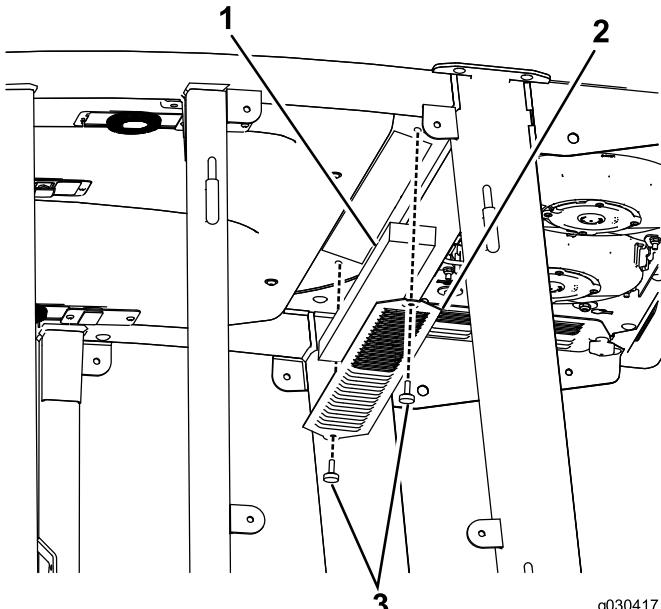
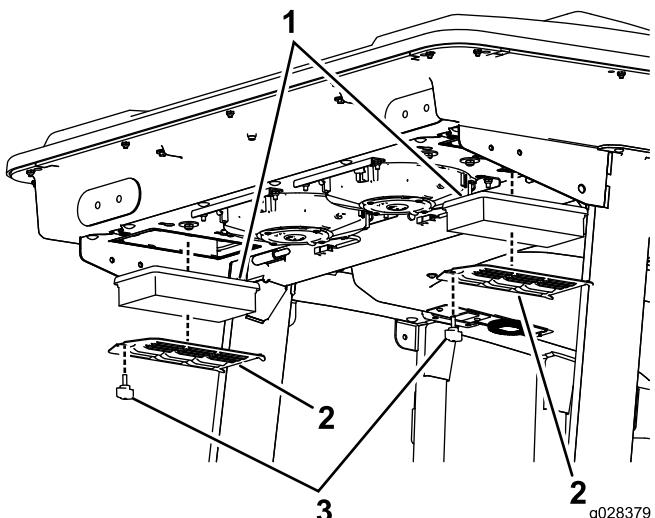
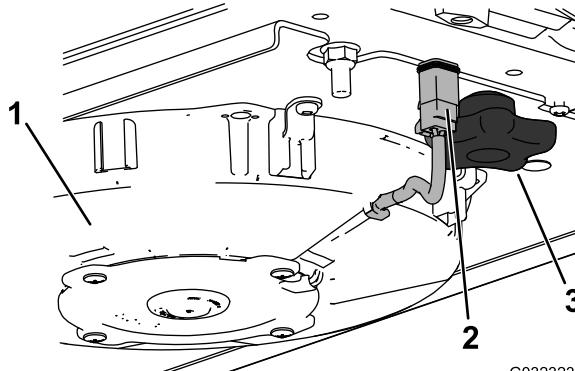

Figure 56
Figure 57
Figure 58
1. Remove the thumb screws and the grates from both the in-cab and rear cab air filters (Figure 56 and Figure 57).
2. Disconnect the wire for each fan (Figure 58).
3. Remove the 2 knobs and remove the fan assembly (Figure 58).
5. Remove the air filters (see Figure 57).
7. Install the air filters, screen, and fan assembly (Figure 57, Figure 59, and Figure 58).
8. Connect the wire for each fan (Figure 58).